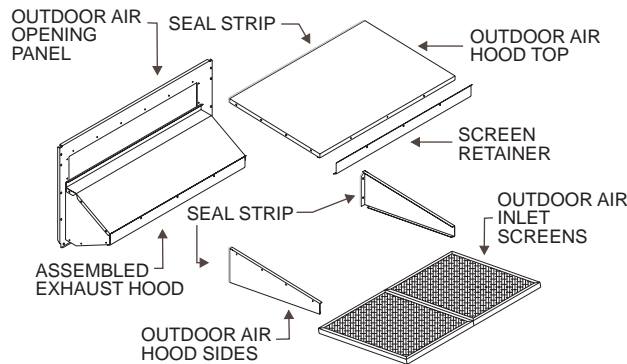

Fig. 28 — Outdoor-Air Hood Assembly
4. Install the 1/8 x 3/4-in. seal strip on the outdoor-air hood top and side panels. Assemble the outdoor-air hood to the outdoor-air opening panel as shown in Fig. 28, using the screws provided. *Do not attach hood assembly to the unit at this time.*